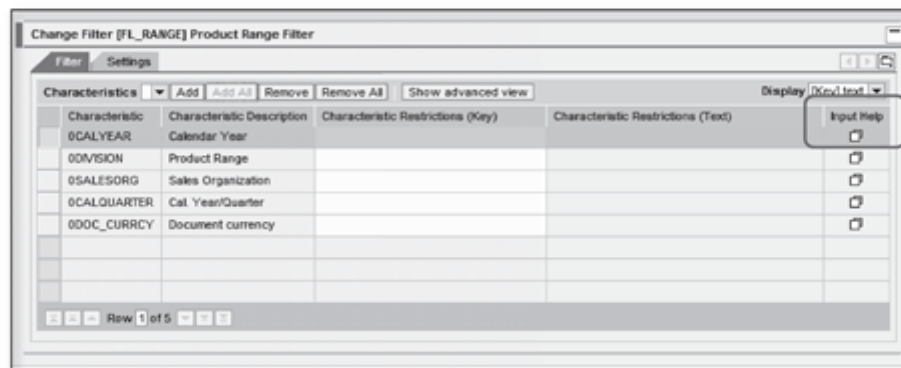

Figure 12.38 Input Help for Filter Characteristic
- The next step is to restrict the characteristics in the filter. Use Input Help to define the characteristic restrictions (see Figure 12.38).